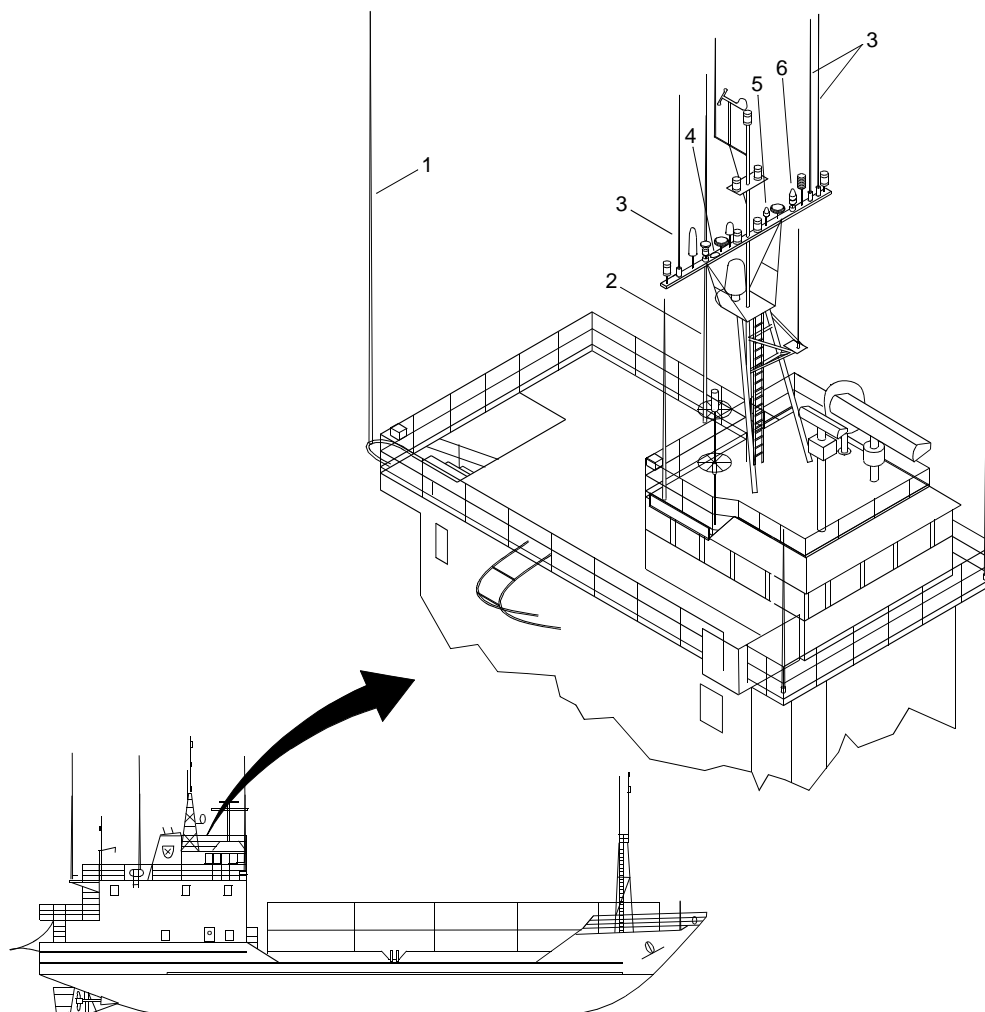

Figure 1. GMDSS Antennas Above-deck Location
The GMDSS antennas are located on the mast along the yardarm (figure 1).
The VHF ANT-AR-62 antenna (figure 1, item 1) is a 32 ft fiberglass antenna that provides the radio signal to the MF/HF transceiver. The antenna operates through an antenna coupler mounted on the aft port railing.
The VHF ANT-AV40 antenna (figure 1, item 2) is a 32 ft fiberglass antenna that provides the radio signal to the MF/HF transceiver. The antenna operates through an antenna coupler mounted on the aft port railing on top of the pilothouse.
The VHF ANT-AV-7 antenna (figure 1, item 3) is an 8 ft fiberglass antenna that provides the radio signal to the VHF-DSC transceiver and NAVTEX receiver. There are three VHF ANT-AV-7 antennas on the GMDSS system.
Two GPS PLGR ANT-AT1665 antennas (figure 1, item 4) are installed, one for the navigation Precision Lightweight Global Positioning System Receiver (PLGR) and one for the communications PLGR. The antennas provide the GPS signal for operation of the PLGRs.
The Iridium ANT SA-4110 antenna (figure 1, item 5) is a helical, omnidirectional fiberglass antenna located on the main mast yard arm, that provides satellite signal to the Iridium handset via an Iridium transceiver located on the same bulkhead as the Iridium handset.
The INMARSAT-C ANT-AT-1606 antenna (figure 1, item 6) is an omnidirectional fiberglass antenna that provides satellite data to the CAPSAT transceiver.
The satellite communications system is composed of the CAPSAT transceiver (figure 2, item 1), CAPSAT transceiver data terminal (figure 2, item 2), CAPSAT transceiver printer (figure 2, item 3) and an omnidirectional antenna (figure 1, item 6). The satellite communications system, also called CAPSAT, offers high integrity distress and routine communication. The satellite communications system incorporates the Global Positioning System (GPS) signal from the Precision Lightweight Global Positioning System Receiver (PLGR) to insert the vessels position automatically into a distress message. By pushing the required CAPSAT transceiver (figure 4, item 1) distress button, located on the GMDSS console, a distress message may be sent giving the vessels identity number and location. The system is not equipped for voice communication, but provides a high quality e-mail, facsimile transmission (FAX) and TELEX communication by using the CAPSAT data terminal. The satellite communications system has the capability to receive Maritime Safety Information (MSI) appropriate to the ocean area where the vessel is sailing. MSI is comprised of weather forecasts, navigation warnings and distress relays.